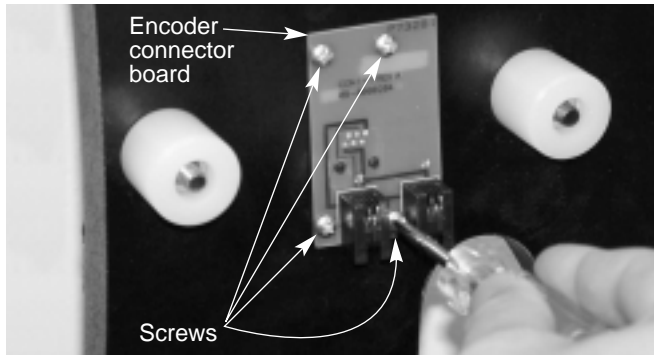

Figure 6. Attaching the encoder connector board. (XT10 Shown)
13. Attach the encoder connector board to the side panel. Place the board against the side panel so that the modular jack fits into the square-shaped hole and thread four encoder board mounting screws through the connector board and into the predrilled holes in the side panel until tight (Figure 6).